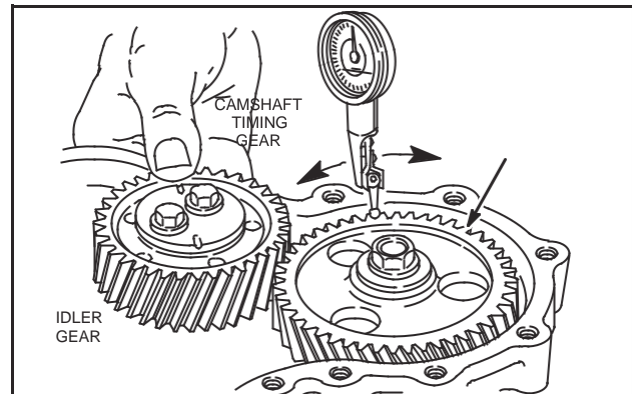

Fig. 8 – Checking Camshaft Timing Gear Backlash
3. Hold idler gear as shown and check gear backlash between camshaft timing gear and idler gear using dial indicator, Fig. 8.